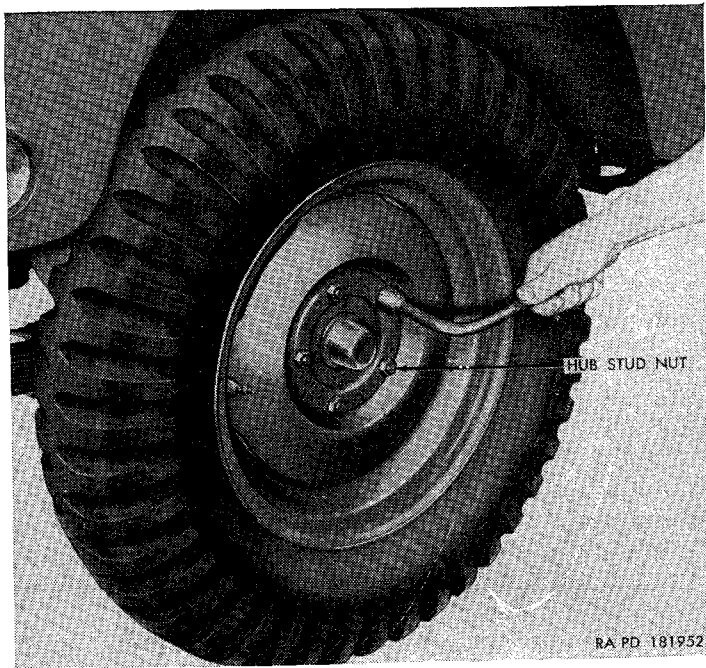
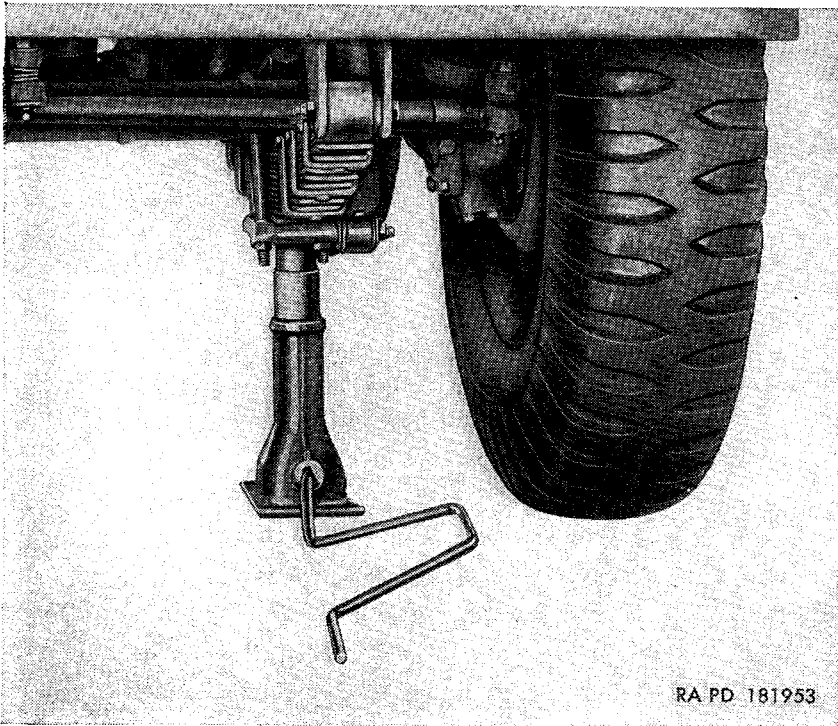

Figure 170. Loosening wheel hub stud nuts.
Figure 171. Front wheel of vehicle—jacked up.
a. Removal. Loosen five hub stud nuts (fig. 170) (left side vehicle, clockwise; right side, counterclockwise). Jack up vehicle (fig. 171) until tire clears the ground. Block other wheels to prevent vehicle from rolling. Remove five hub nuts and remove wheel.